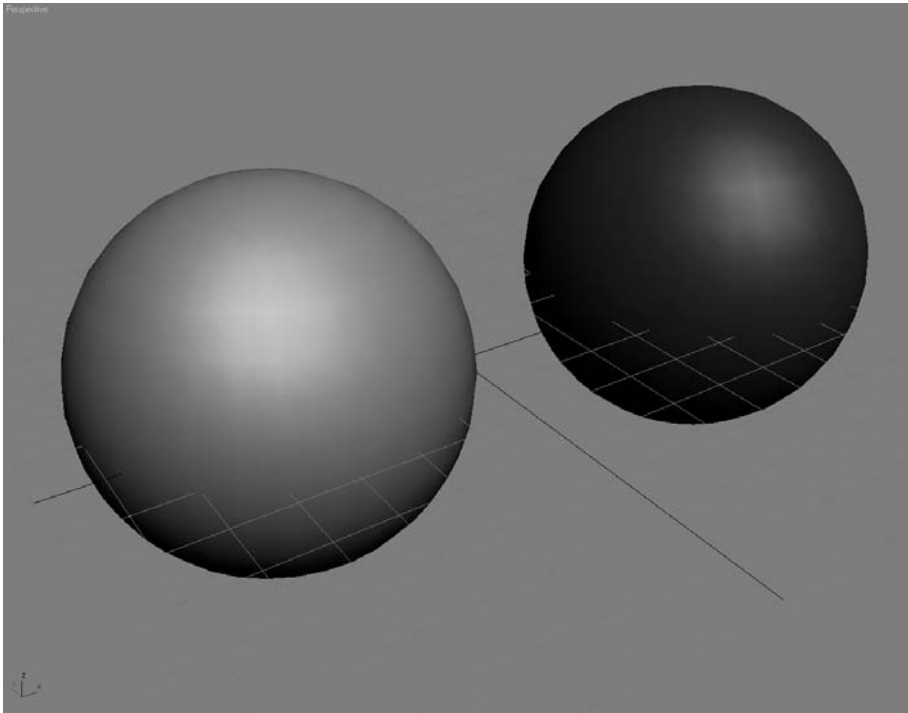

Figure 4.16
1. Create two spheres in a new scene, and place them side by side, as shown in Figure 4.16.